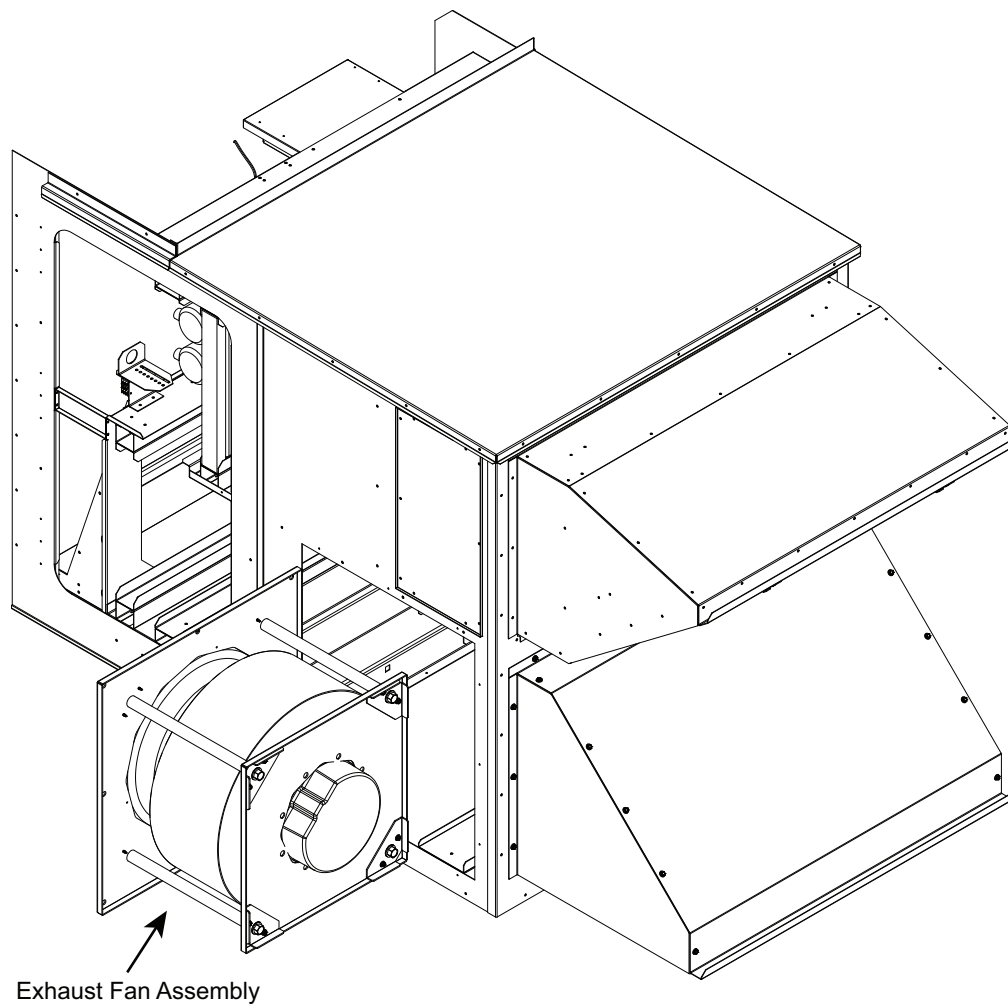

Fig. 59 — Exhaust Fan Assembly - Removal
7. Remove the exhaust fan by moving it back and then out the side of the unit through the exhaust motorized damper access panel. See Fig. 59.